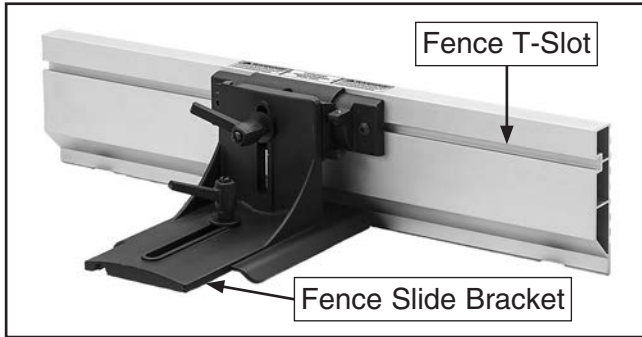

Figure 11. T-slot on rear side of fence.
3. Install fence on fence slide bracket by inserting (2) M6-1 T-slot nuts installed in **Step 2** into T-slot on rear side of fence (see **Figure 11**).